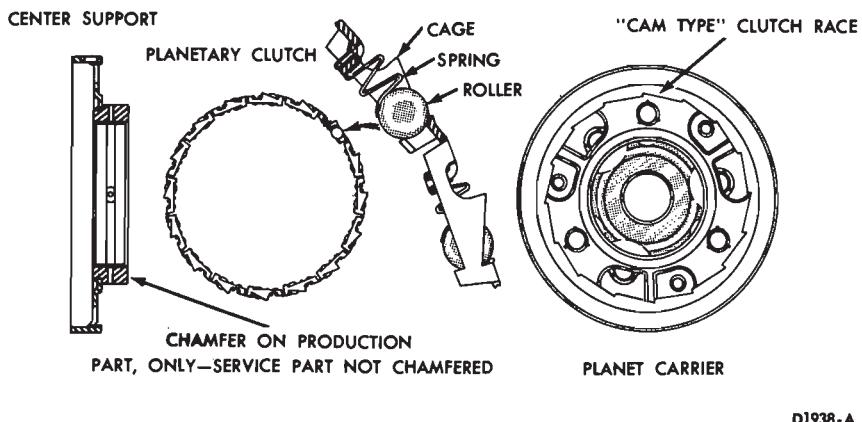

FIG. 26—Roller Type Planetary Clutch, Carrier and Center Support
1. Inspect the clutch outer race, inner race, band surface, pinion gears, bearings, and thrust washer (Fig. 26) for roughness.